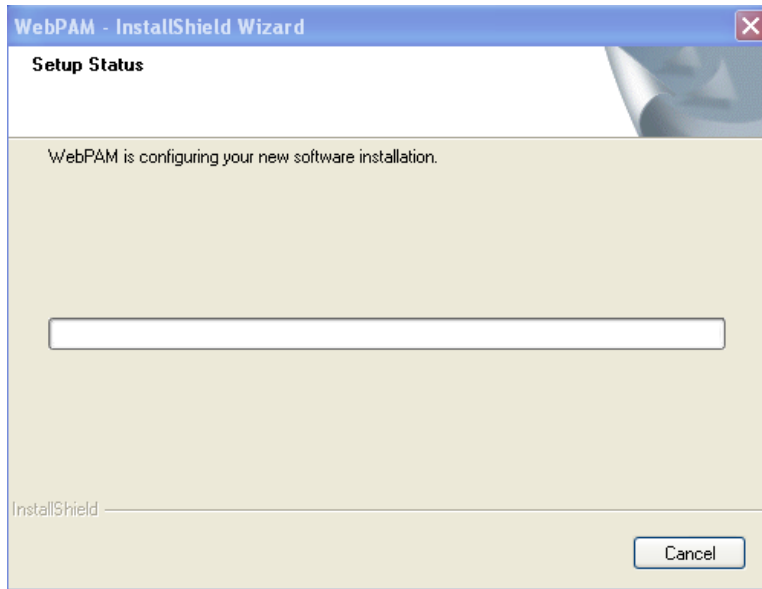

Figure 7-35: WebPAM Installation
Step 17: The WebPAM program begins to install as shown in **Figure 7-35**.